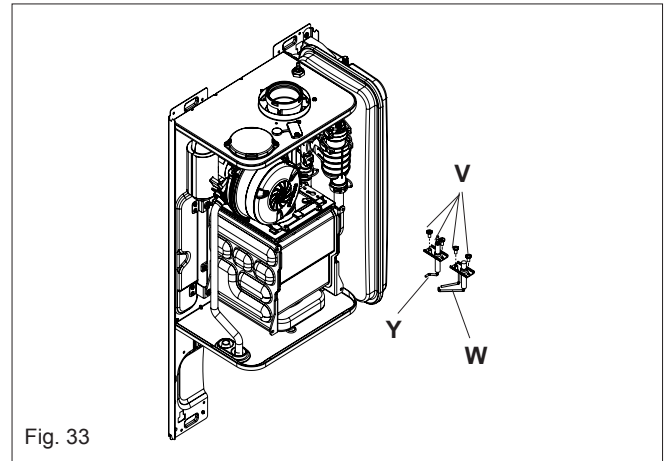

Fig. 33
6.13 ELECTRODES (fig. 33)
Isolate the appliance from the electrical supply and remove the appliance casing as described in 4.7.1, to gain access to the printed circuit board, locate and open the closing plug on the dash board (L2), Restore the electrical supply to the boiler and switch the boiler to the OFF mode. locate and press the CO button (see fig. 36 pos. SW1). Press the button the number of times according the function requirement as par 7.3.1. Set the flue gas analyser to read CO₂ and insert the probe into the flue analysis test point (Y1-Z1 fig. 33).